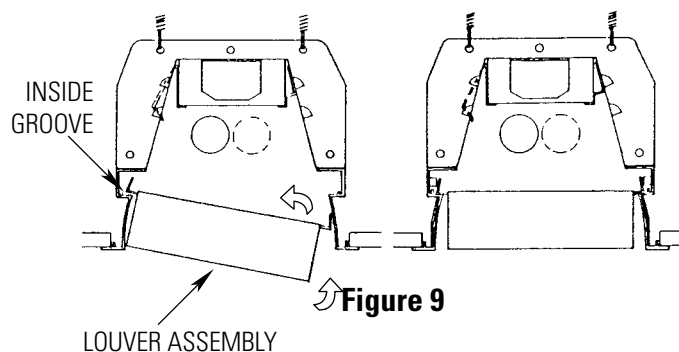

Figure 9
- Lift and tilt LOUVER ASSEMBLY into HOUSING and rest INSIDE groove on extruded trim flange. (Fig. 9)
- Be sure to align and level all LOUVERS to insure best results of a proper installation. As show in Installation step 7 on page 8. (Fig. 9 & 10)